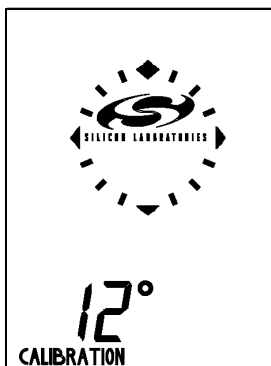

Figure 9. LCD Declination Angle Degree Display
4. Turn the compass back over to introduce the degree value of the declination angle. Use the MENU button to increment the value. The display will appear as shown in Figure 9. After the correct value of the declination angle for your region has been set, press the ENTER button. See "7. Declination Angle" for an overview of the declination angle.